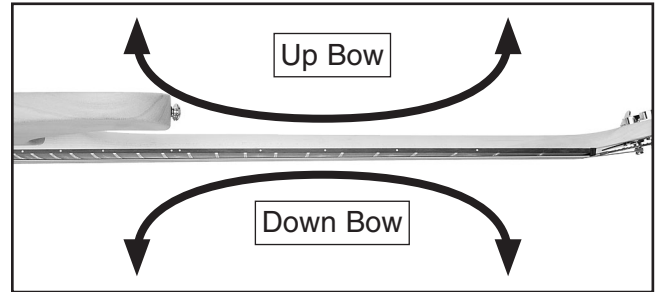
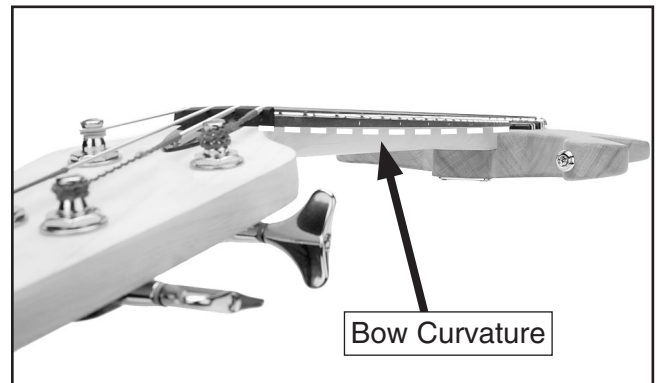

Figure 30. Neck bow.
Figure 31. Slightly up-bowed neck (viewed down neck from headstock).
2. Place a straightedge between the G and D strings, from the 1st fret to the 17th. Measure any gaps between the straightedge and the frets with the feeler gauge to determine if the neck is straight, bowed up or bowed down (**Figure 30**). **Figure 31** shows an example of a slightly upbowed neck.